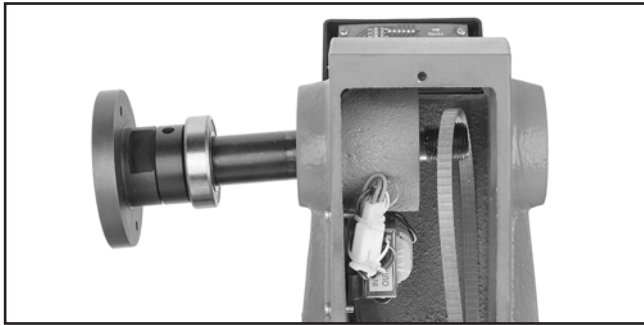

Figure 53. Belt removal (pulley removed for clarity).
6. Tap spindle far enough out of headstock so belt can be removed (see **Figure 53**). A rubber or wooden mallet may be required. Take care not to damage spindle threads or lose parts. **DO NOT** remove spindle pulley.